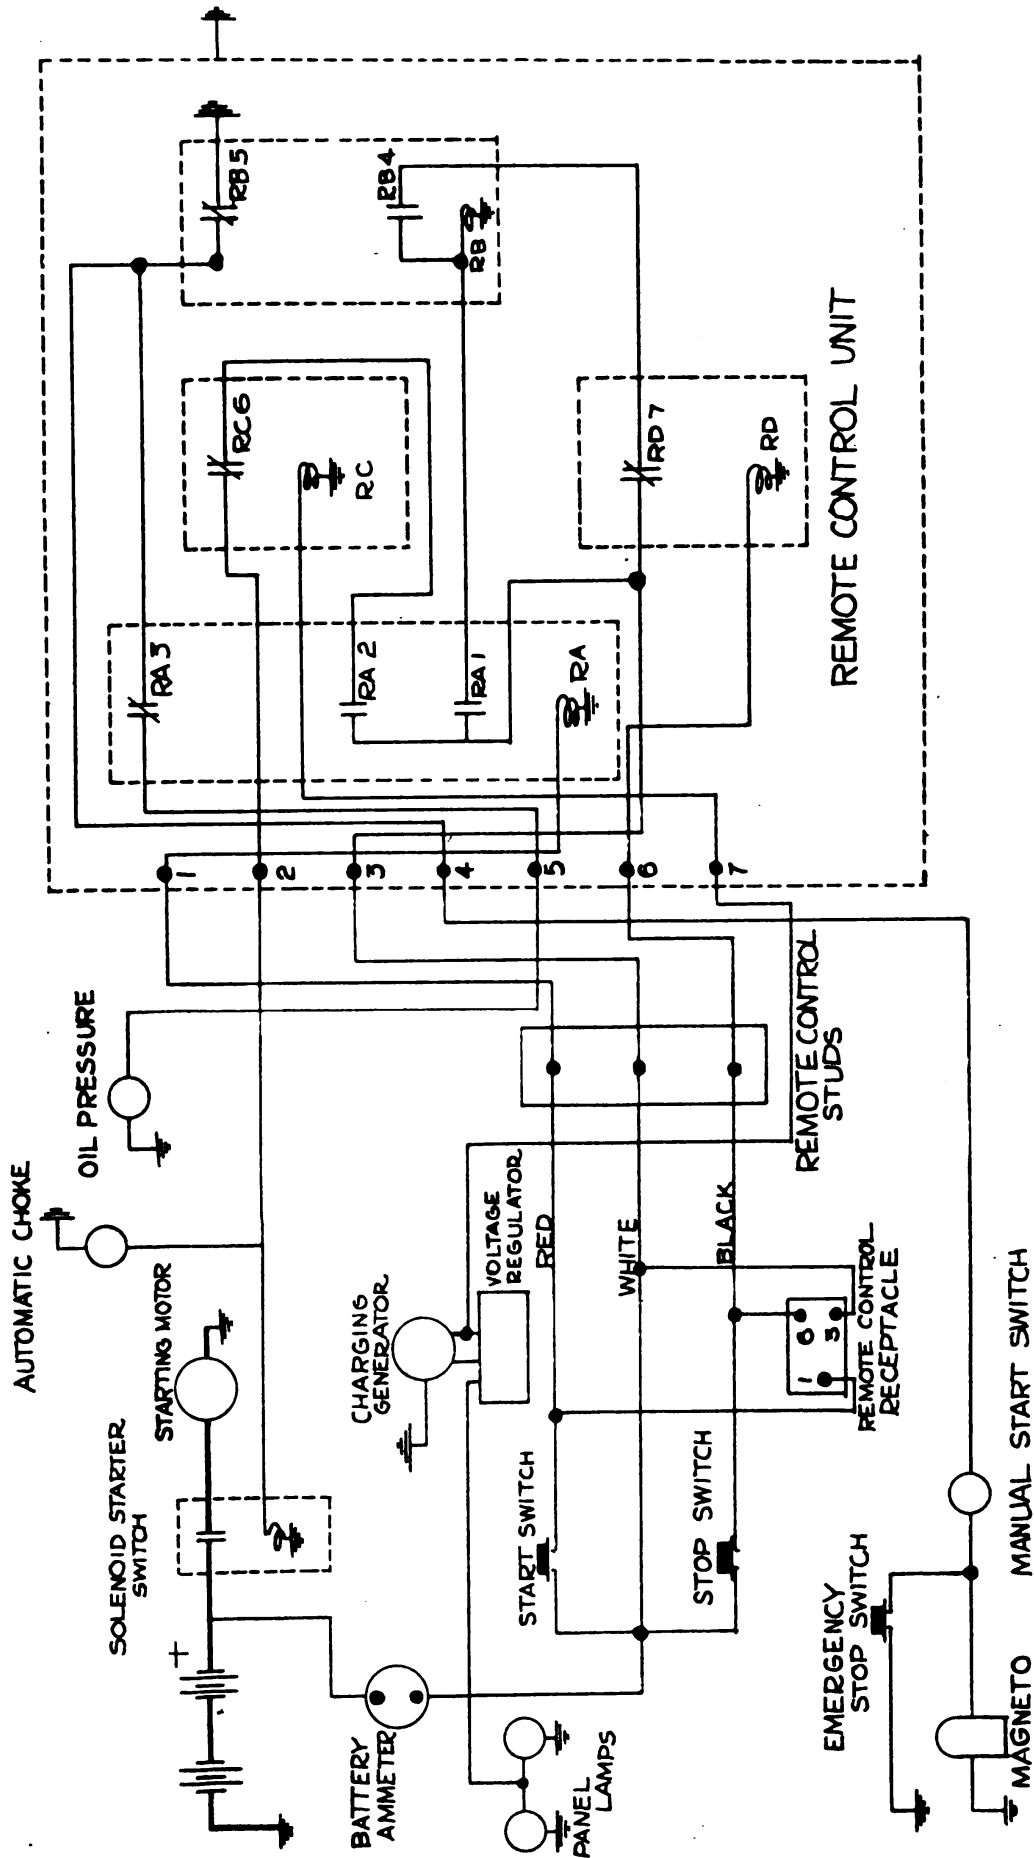

FIGURE 5—WIRING DIAGRAM POWER UNIT PE-99-E
10. Start and stop circuits (Figure 5)
a. *To start the engine.* (1) Pressure on the START switch operates relay *RA*, closing contacts *RA1* and *RA2* and opening *RA3*. *RA1* operates relay *RB*, closing *RB4* to lock in relay *RB*, opening *RB5*.